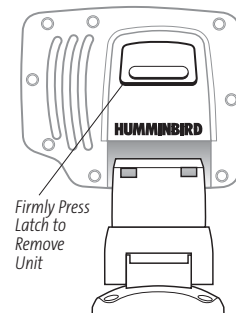

Figure 13
5. Slide the control head onto the mounting bracket until it is fully seated. To remove the unit, grasp the unit with both hands, then firmly press the latch on the rear of the unit and lift (Figure 13).